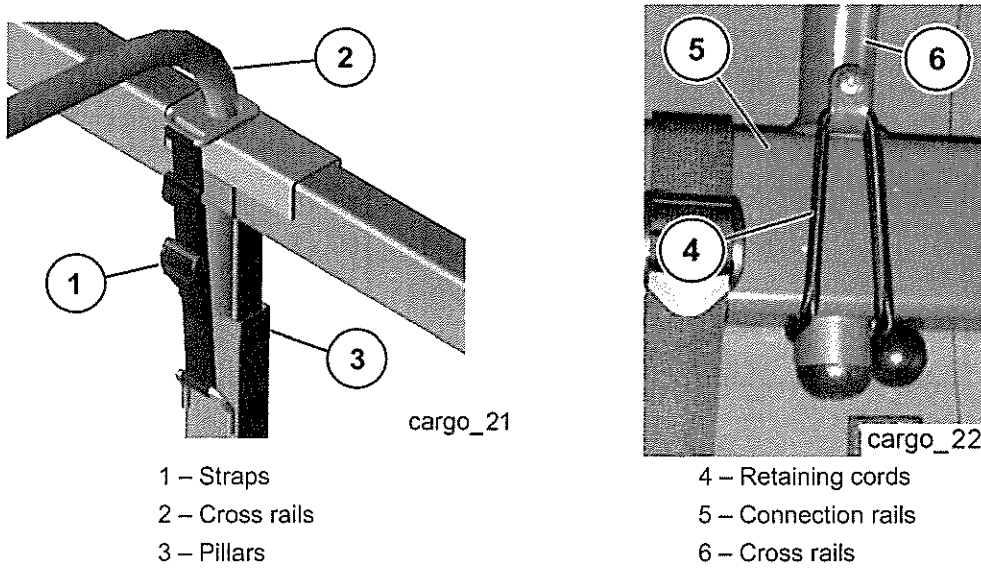

Fig 14 Securing the pillars and cross rails
18.4 Refer to Fig 14. Install the front, centre and rear cross rails to the connection rails.